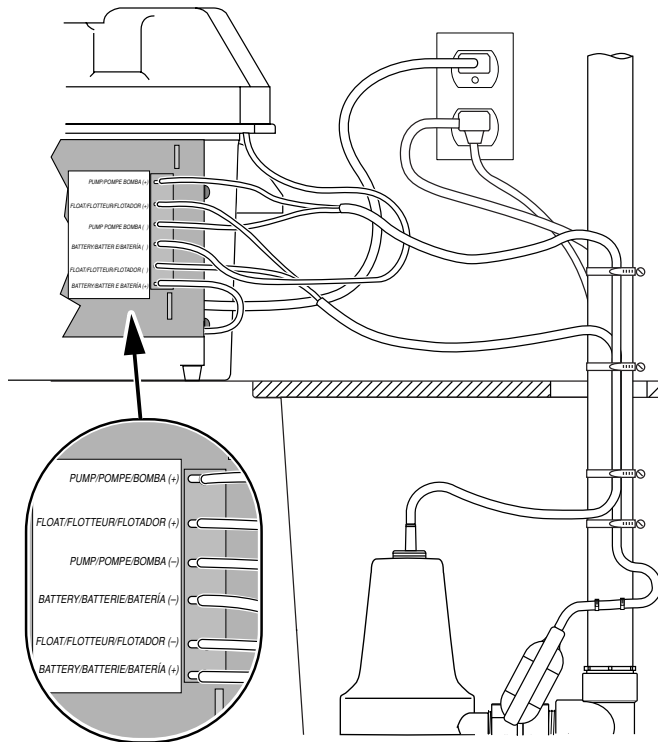

Figure 11 – Wiring Connections DB20018T
1. Connect charger as shown in Table IV and Figure 11.